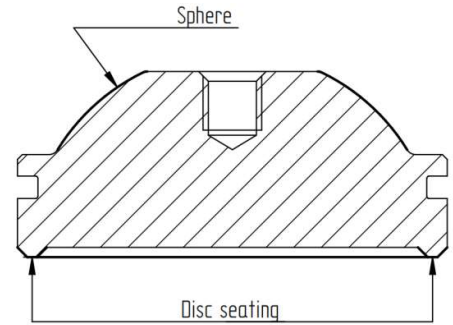

FIGURE 13 - DISC
- Main valve disc (11)
- Inspect the disc seating surface (figure 13). Roughness of the seating surface of the nozzle shall be Ra 0.4µm (16 RMS). Touch check the roughness of lapped seating surfaces according to ISO 2632 (or equivalent) test specimen.